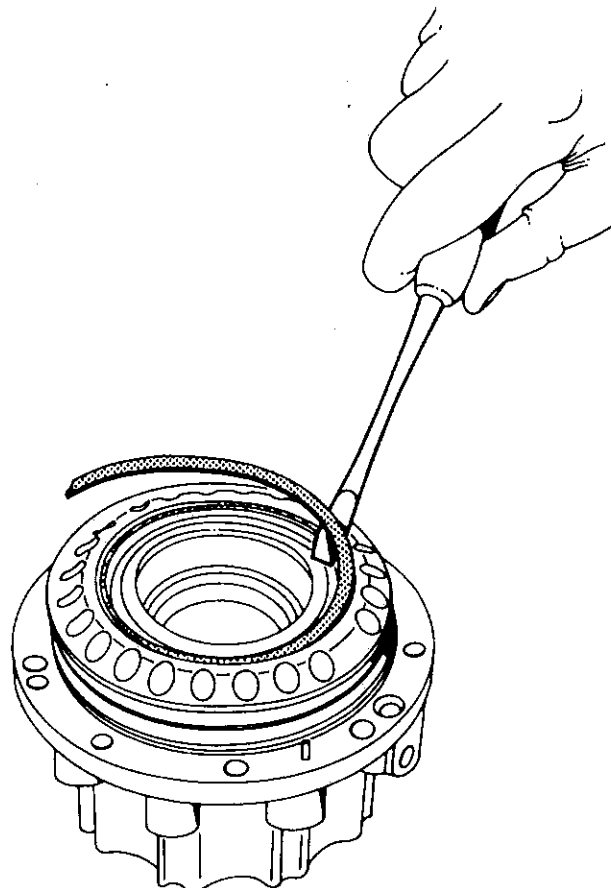

Figure 4.11
18. Remove the front retaining ring (12) from the drive housing, as shown in Figure 4.11.